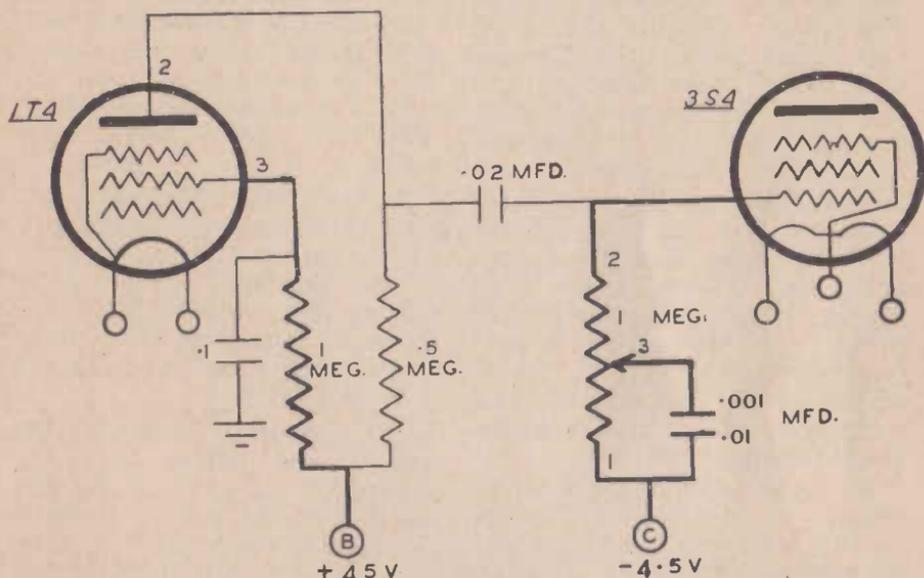

FIG. 5
(A) The circuit arrangement of the first tone control is shown in Figure 5. The alterations to the set are emphasised by heavy lines on the diagram. It will be necessary to remove the 1 megohm fixed resistor from the control grid circuit of the 3S4 valve and to wire this
With the potentiometer turned in an anti-clockwise direction, so that the sliding arm is at the end marked 1 in Figure 5, the .001 mfd. condenser
will have no effect and the full range of audio frequencies will be reproduced without the treble notes being weakened. By moving the potentiometer shaft to the other extreme position corresponding to Position 2 in Figure 5, the .001 mfd. condenser is connected directly between the grid of the 3S4 and C battery, so that the treble notes in a musical programme
To produce a more definite effect, you should next disconnect the .001 mfd. condenser and connect in its place a .01 mfd. condenser. You will find that as you now rotate the shaft of the 1 meg. potentiometer, a much greater effect is noticeable, and when the shaft is turned to Position 2 on Figure 5, the treble notes will be severely weakened. In fact, the reactance of the .01 mfd. condenser will be so low that, not only the treble notes, but most
As the treble notes are weakened excessively when the control is turned fully to Position 2, you will find that a nicer balance is established when the control is turned to some intermediate point such as indicated at 3 on Figure 5.